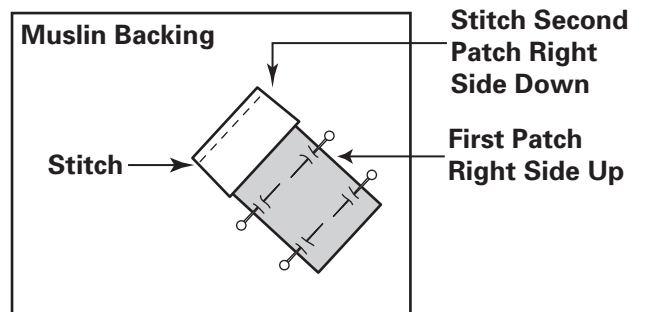

Fig. 9-2
3. Cut a second irregular-shape patch with straight edges from a different fabric. Choose an edge on the first patch and an edge on the second patch to sew together. Place the two patches right sides together, aligning the two raw edges that you have chosen. Pin the two raw edges together. Keep the layers flat, and stitch ¼ inch (6 mm) from the aligned edges, sewing through all three layers of fabric. (Fig. 9-2)